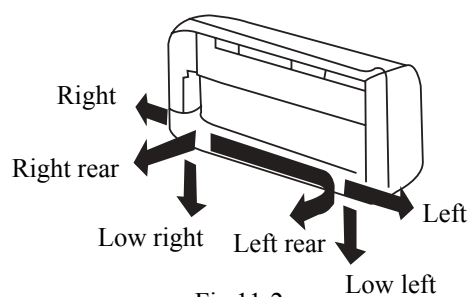

Fig.11-2
1. The direction of piping can be chosen from six directions as shown in Fig.11-2.